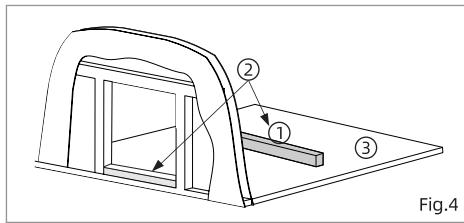

Fig.4
6. If necessary, create a platform to support the water heater. Fig.4 and Fig.5 are some common solutions. Ensure the platform is level front to back, and side to side after securing to the RV.